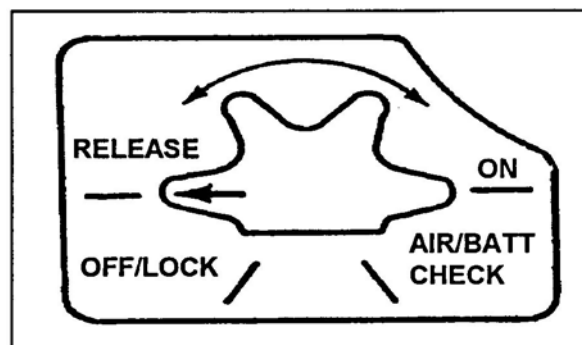

Figure 2. Night Tracker Actuator Switch
- (2) Place the actuator switch straight out. This is the RELEASE position (Figure 2).